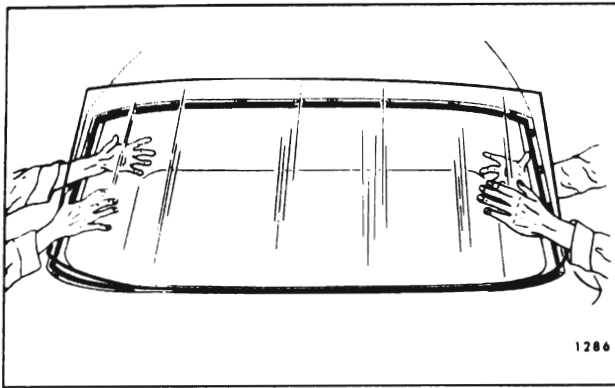

Fig. 4-8—Windshield Installation
10. With aid of helper, lift glass with one hand on outside of glass and one hand on inside of glass. Carefully move glass up to windshield opening maintaining glass in a horizontal position. While one man holds glass in this position, the second man can reach around the windshield pillar and hold glass; then, first man can reach around windshield pillar (Fig. 4-8). Carefully position glass into opening, making certain that glass is properly centered in opening and positioned on lower spacers. Use tape previously applied on windshield pillar to properly align glass (Fig. 4-6).